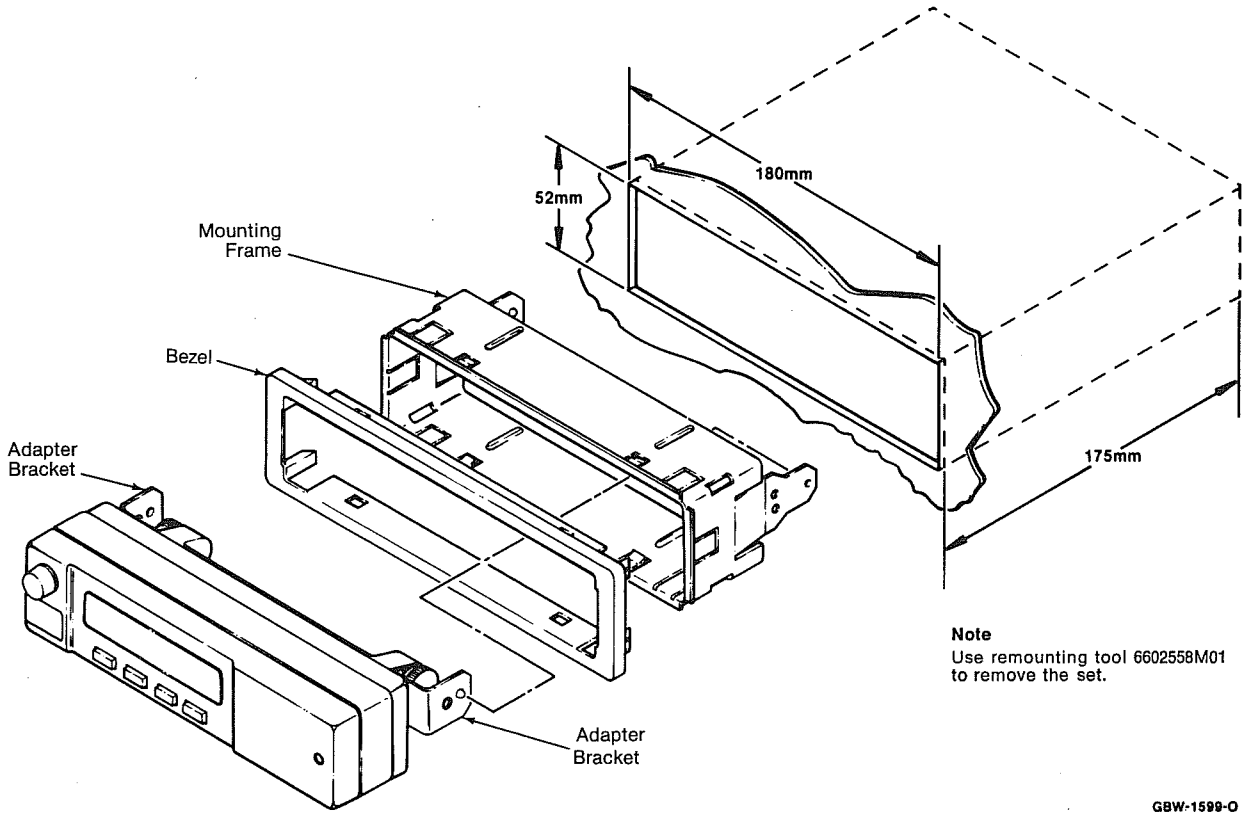

Figure 3
- (1) Attach the adapter brackets to the control head with internal-hex machine screws (Figure 3).
- (2) Open the radio cutout in the dashboard or enlarge the cutout to the dimensions shown in Figure 3.
- (3) Insert the mounting frame into the cutout (Figure 3) and bend the six tabs to hold it there (Figure 2). Press the bezel onto the mounting frame.
- (4) Slide the control head into the mounting frame until it snaps firmly into place.